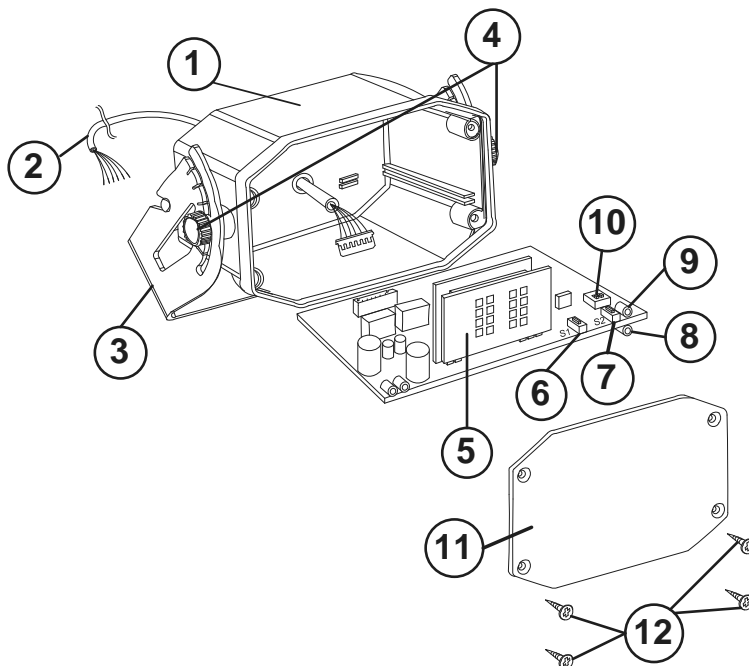
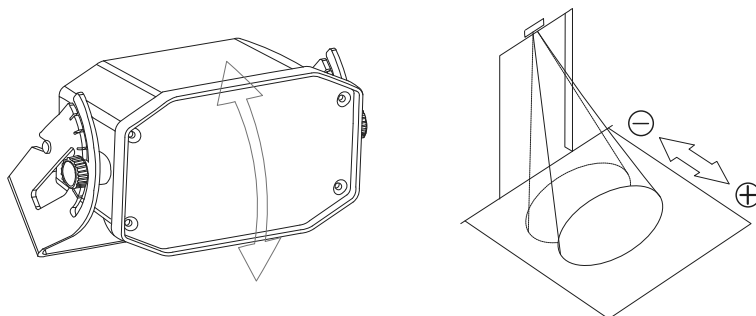
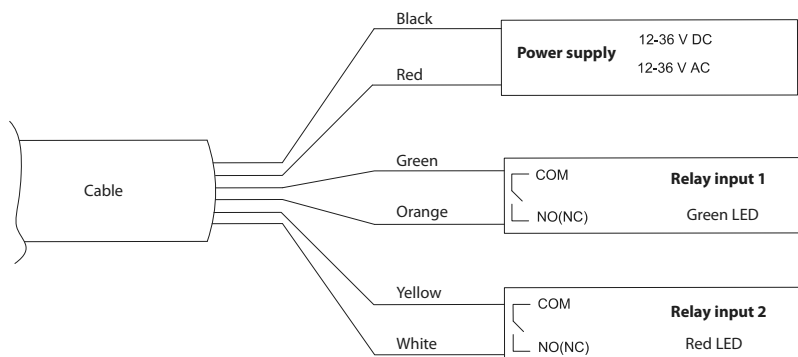

Figure 7
Figure 8
Figure 9
To adjust the inclination, loosen the adjustment screws 4 (Fig. 7) and adjust the operating range of the radar by moving its housing (Fig. 8). After the adjustment is completed, tighten the screws.
The radar is supplied with the cable 2 (Fig.7), connected to the control board. Connect the power supply and cables to the electric door opener, which is planned to work together with (Fig. 9).
If the remote control is not available, only three functions can be set up with the buttons on the radar control board (see *Table* of settings). In this case, only relay input 1 is available for control (Fig. 9). All other functions must be set up using the RD-T remote control.
1. Remove all four screws 12 (Fig. 7) of the front cover and remove it;
DIP-switches 10 (Fig.7) are required to set up the control channels for the RD-T remote control (see the set up section in the remote control operating manual).